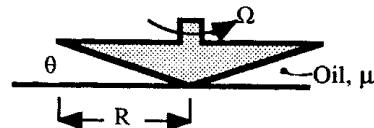

Fig. P1.56
- 1.56\*** For the cone-plate viscometer in Fig. P1.56, the angle is very small, and the gap is filled with test liquid  $\mu$ . Assuming a linear velocity profile, derive a formula for the viscosity  $\mu$  in terms of the torque  $M$  and cone parameters.